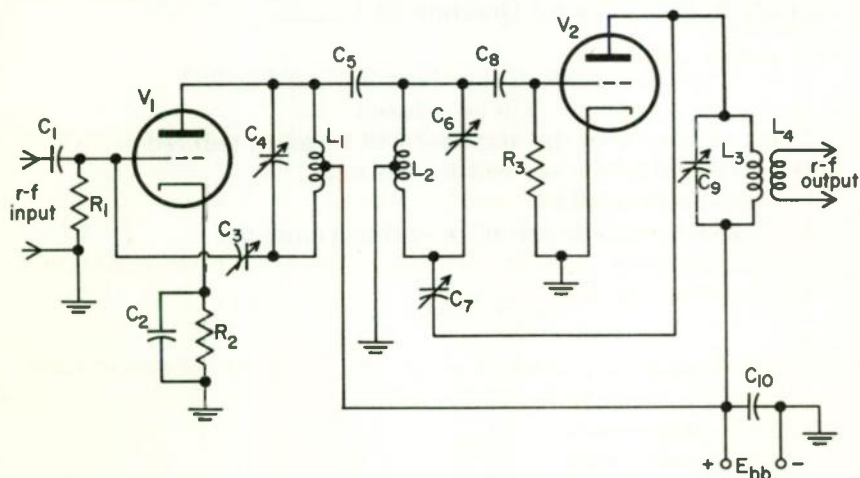

Fig. 23
31. Both stages in the r-f amplifier of Fig. 23 are operated class C. Grid bias for tube V_1 is obtained by
- (1) the voltage drop across R_1 only.
- (2) the voltage drop across R_2 only.
- (3) the voltage drop across both R_1 and R_2 , but mostly from R_1 .
- (4) the voltage drop across both R_1 and R_2 , but mostly from R_2 .
32. If the r-f input is lost in the circuit of Fig. 23,
- (1) the plate current of both tubes will drop to zero.
- (2) the plate current of V_2 will drop to zero, and that of V_1 to a lower than normal value.
- (3) tube V_1 may burn out.
- (4) tube V_2 may burn out.
33. What type of coupling is used between the stages in Fig. 23?
- (1) Capacitive coupling
- (2) Coupling is by means of the π -network, consisting of L_1 , C_3 , and L_2
- (3) Transformer coupling
- (4) Reactance coupling
34. With regard to neutralization of the first stage in Fig. 23,
- (1) neutralization is not used.
- (2) grid neutralization is used.
- (3) plate neutralization is used.
- (4) inductance neutralization is used.
35. With regard to neutralization of the second stage in Fig. 23, (Select answer from choices for Question 34.) _____
36. What would be the effect of a short in C_4 of Fig. 23?